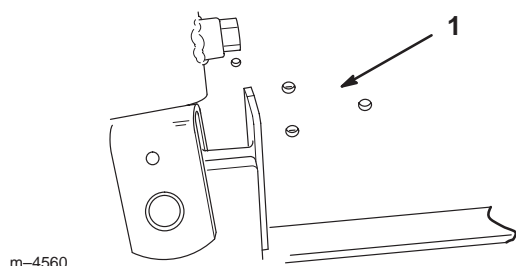

Figure 1
3. Examine your traction unit. If it has three mounting holes pre-drilled in the frame, a few inches in front of each lift cylinder (Fig. 1), skip to step 6.